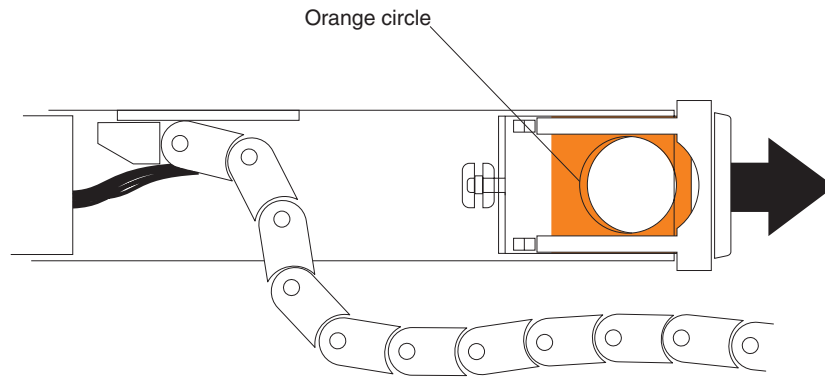

Figure 58. Horizontal mounting bracket that connects to the drive drawer
- d. Disconnect the right cable chain mounting bracket from the drive drawer. Insert your finger into the orange circle (see Figure 58 on page 119), and pull the mounting bracket completely out of the drive tray. Remove the right cable chain.